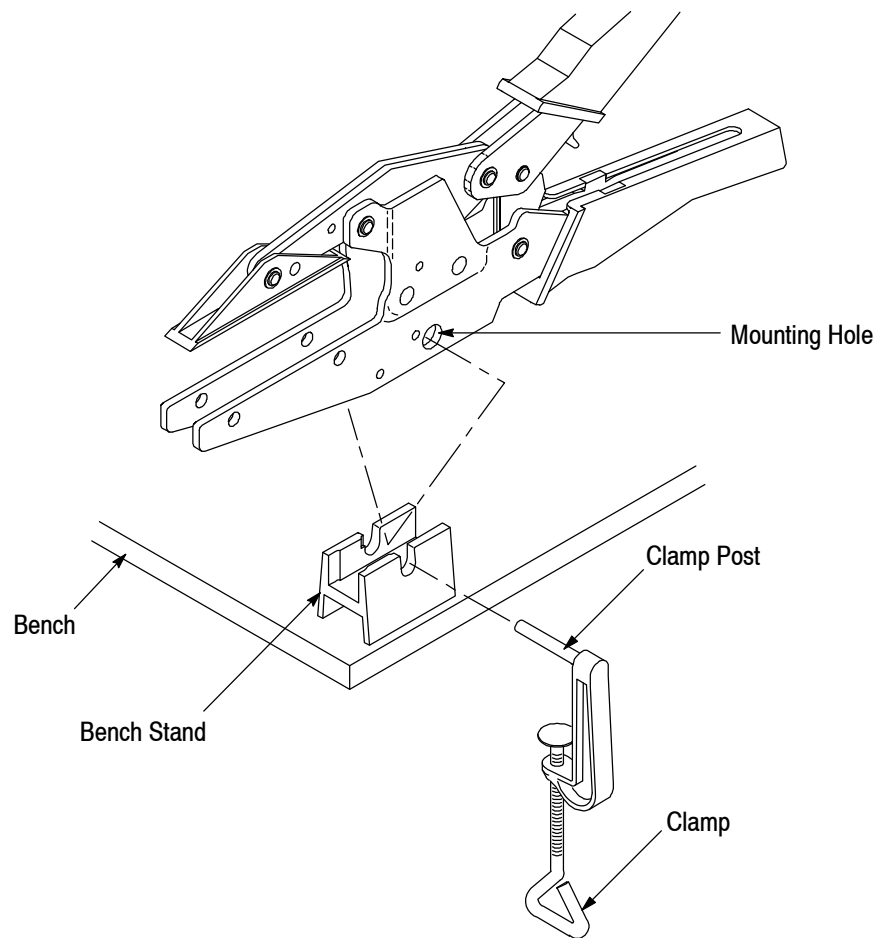

Figure 2
3. BENCH-MOUNTING PROCEDURE (Figure 2)